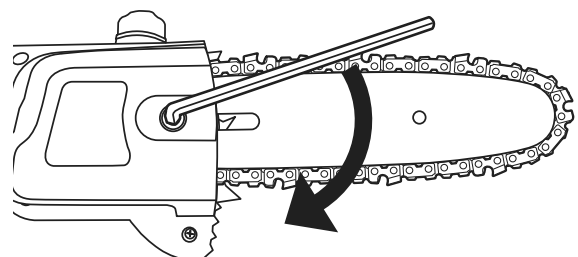

Figure 5
7. Replace the Sprocket Clamp and End Cap and fasten back in place using Hex Wrench. See Figure 5, right.